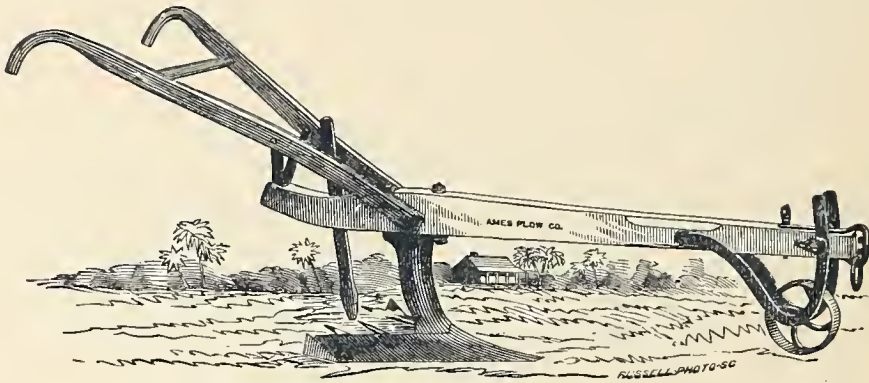

Fig. 371. — Triangular Cane-Cultivator.
*The Triangular Cane-Cultivator*, represented by *Fig. 371*, is an implement used in many cane-growing sections.